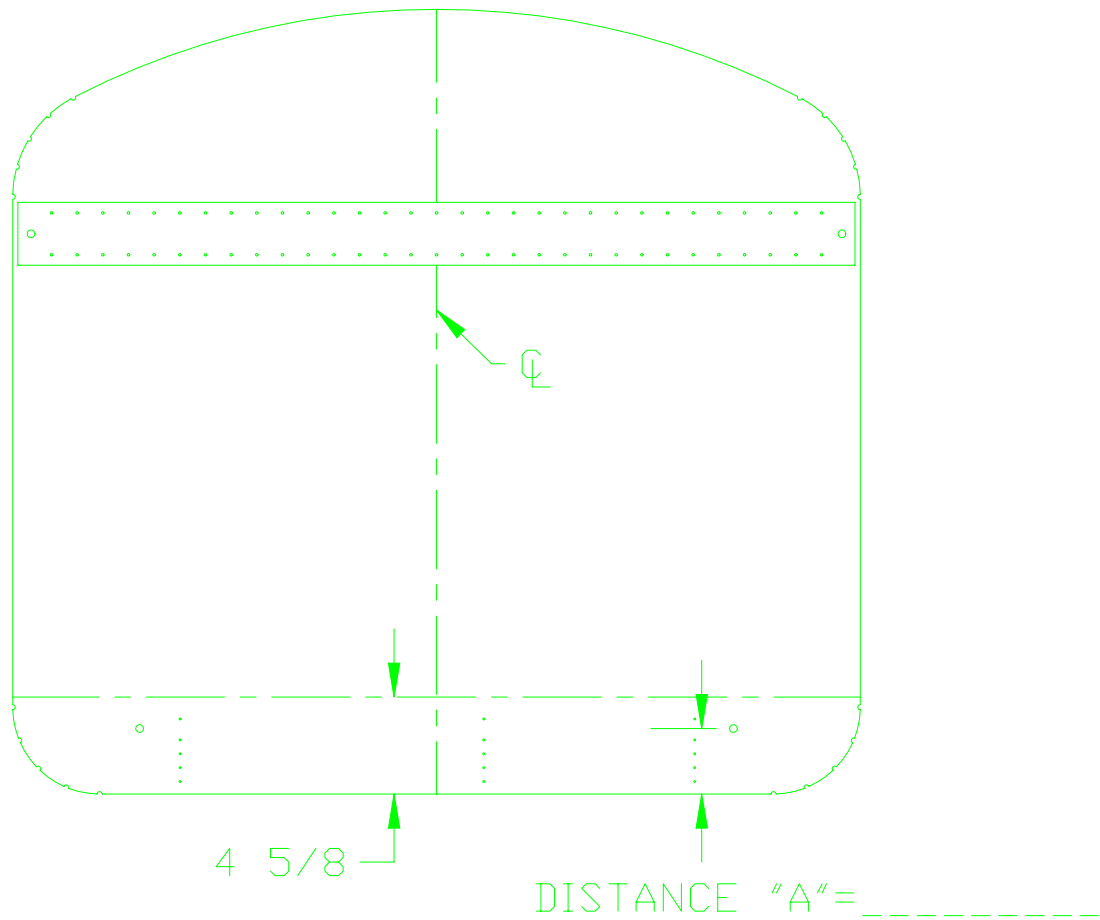

FIGURE 29
60) Draw a horizontal line $4 \frac{5}{8}$ " up from the bottom of the firewall. Measure the distance "A" from the $\frac{3}{8}$ " holes to the bottom of the firewall. Figure 29.